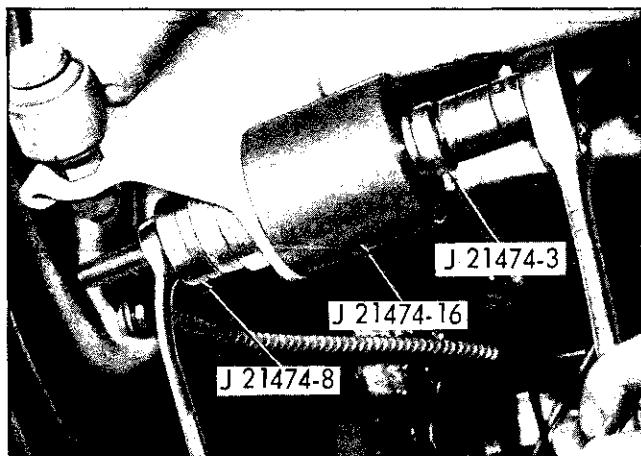

Fig. 4-9 Removing Lower Control Arm Rear Bushing - Pontiac
2. Remove bushing from axle housing bracket by arranging tools as shown in Fig. 4-9 and press out bushing.